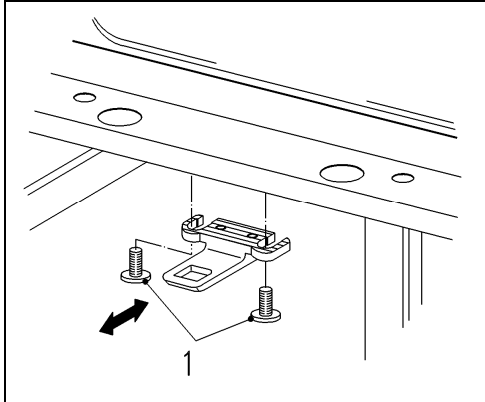

Figure 5-1: Locking Plate
1. Loosen the two screws (Figure 5-1, Item 1).